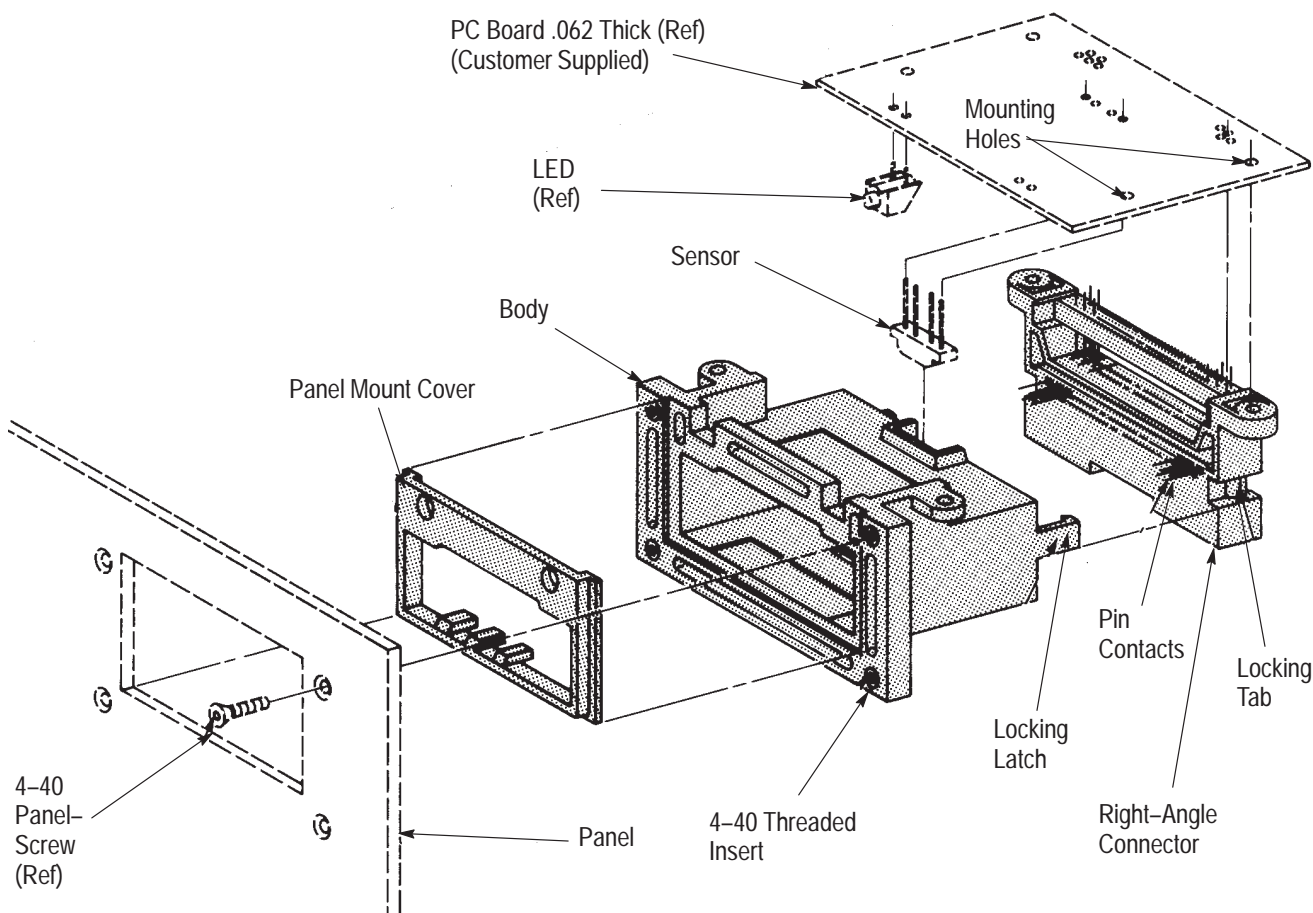

Figure 5
3.2. Holder Assembly (Figure 4 and Figure 5)